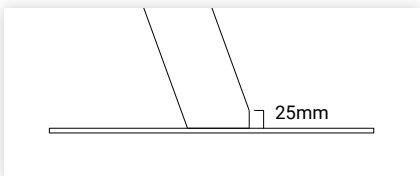

figure 12
3. Important: Cut the front corners back 25mm - this can make the ladder easier to close and can also prevent damage to the ladder if dropped during opening (figure 12).